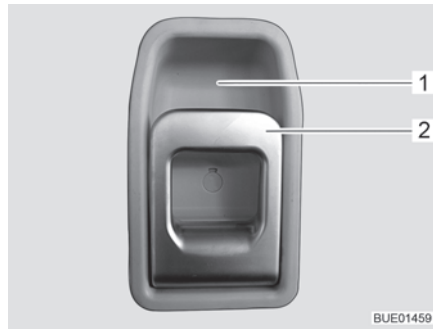

Fig. 35 Door lock of conversion door, inside
- Opening:** ■ Pull on the handle (Fig. 35,2). The door lock is unlatched.
- Locking:** ■ Press the upper part of the handle (Fig. 35,2) in the direction of the recessed handle (Fig. 35,1).